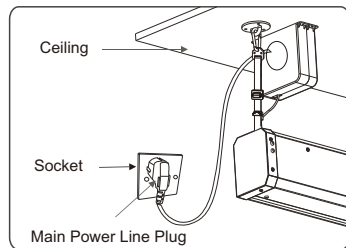

Figure 15
9. Insert the plug from main cable into the socket on the cable box (figure 15).